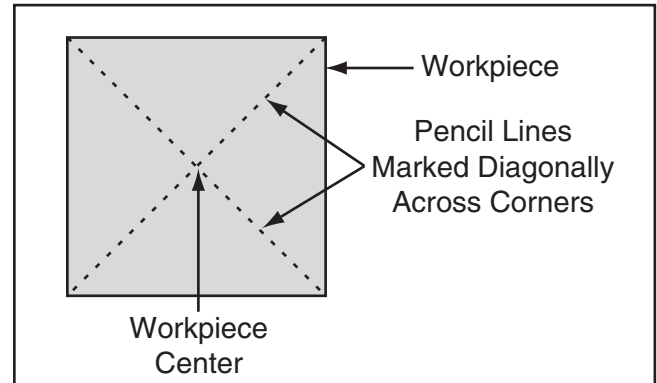

Figure 28. Workpiece marked diagonally from corner to corner to determine the center.
1. Find center point of both ends of your workpiece by drawing diagonal lines from corner to corner across end of workpiece, as shown in **Figure 28**.